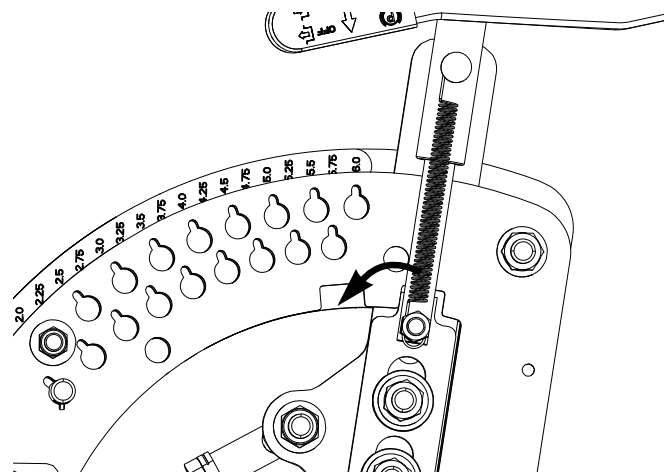

Figure 4-7. Cutter Deck Lever Latch
2. Pull the cutter deck lever back to the first latch position. See Figure 4.7.